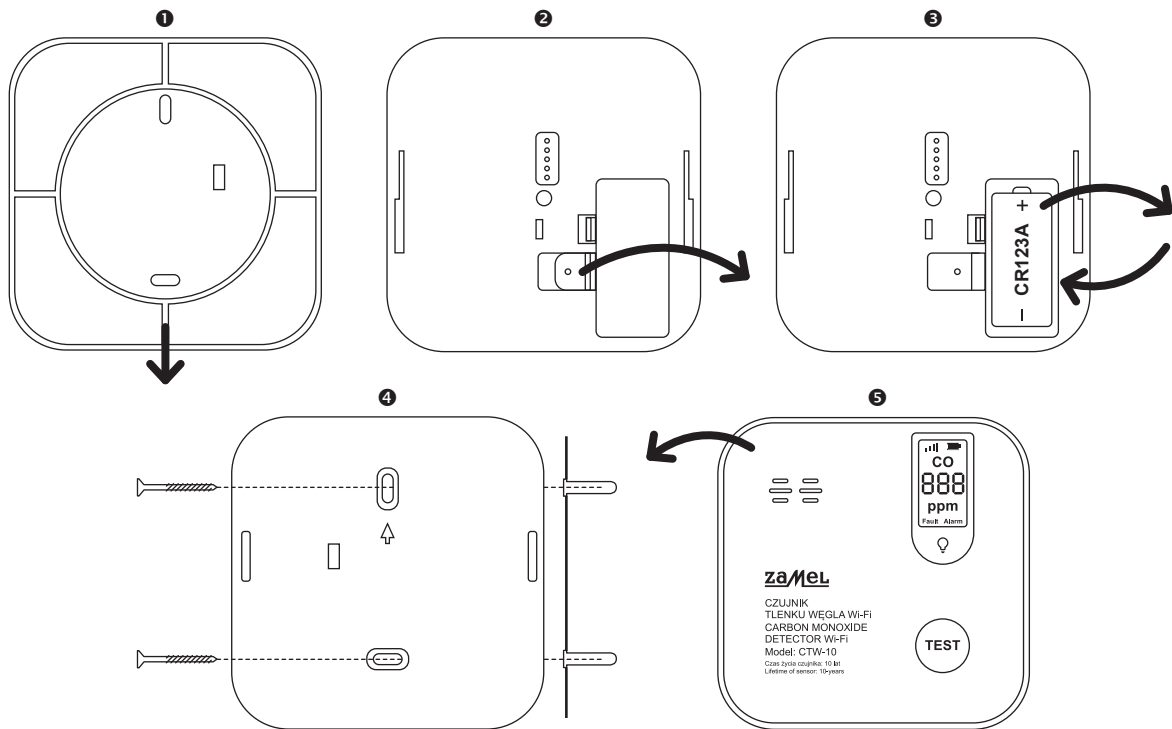

Fig. 2
1. Remove the sensor mounting base by pulling it down (see Fig. 2)